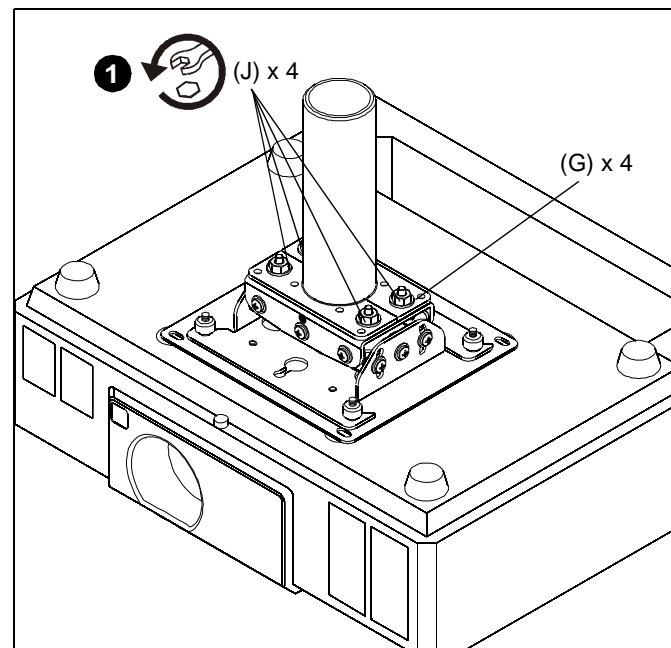

Figure 7
1. Remove the four 1/4" flat washers (G) and four 1/4" hex nuts (J) from on top of the RPA/RPM mount. (See Figure 7)